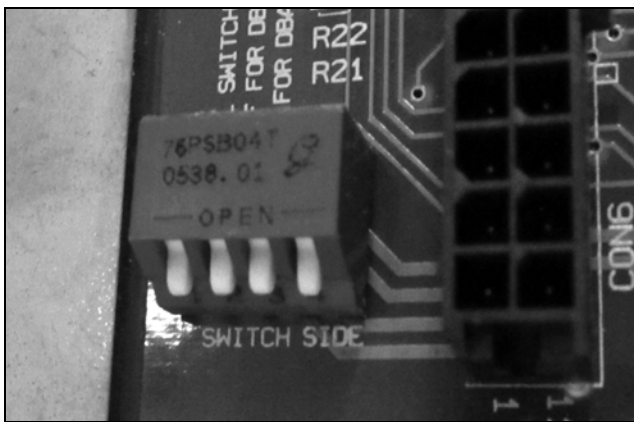
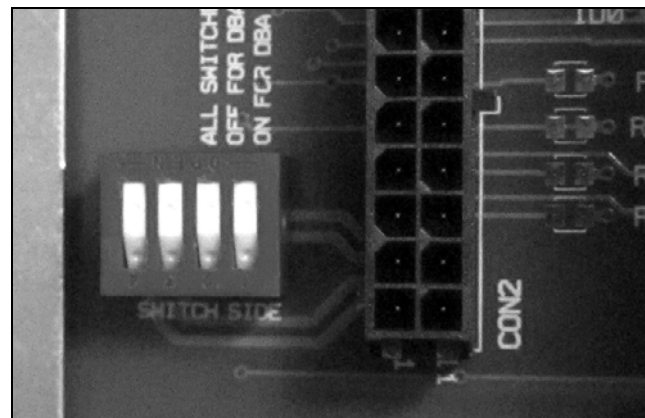

Figure 57 Older style rocker switches set for a TBA with the switches set in the closed position.
Figure 58 Newer style rocker switches set for a TBA with the switches set in the closed position.
2. Verify the rocker switch settings. The rocker switches are located just above each TBA. Confirm the switches are in the proper position for a TBA (see Figure 57 and Figure 58).